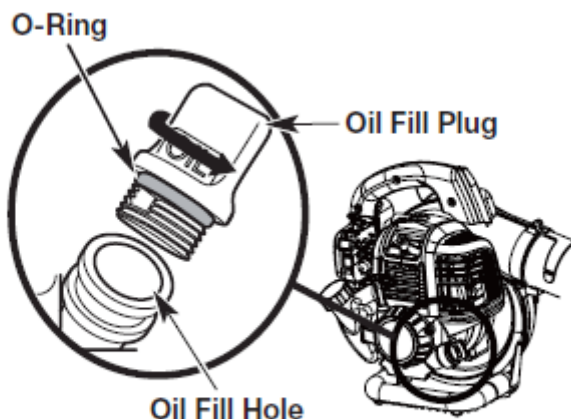

Fig. 8
- 2) Unscrew the oil fill plug (Fig. 8)
- 3) Pour the entire container of oil into the oil fill hole (Fig. 8)
**WARNING!** **DO NOT** overfill. Refer to Checking the Oil Level. Never add oil to the fuel tank. This unit has a four-cycle engine. **DO NOT** mix oil with gasoline. Wipe up any oil that may have spilled. Make sure the O-ring is in place on the oil fill plug (Fig. 8).